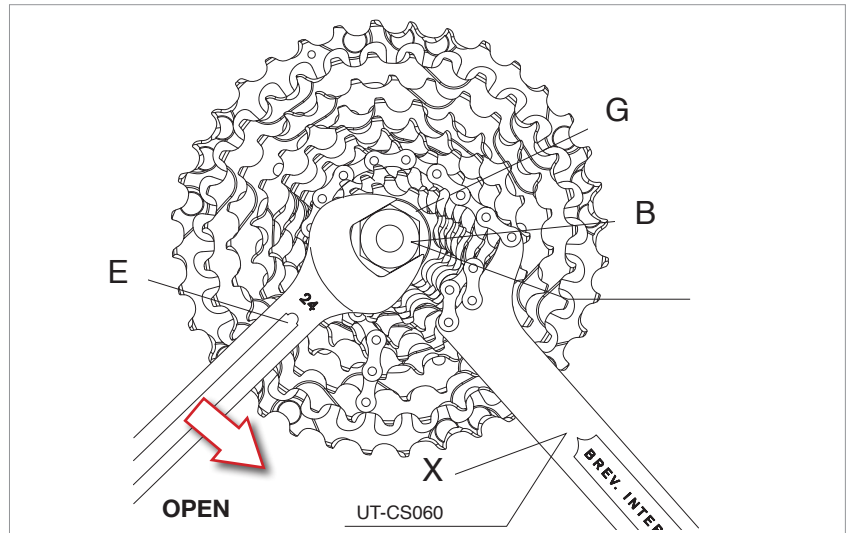

Fig.5
- Remove the locknut (G - Fig. 5) using Campagnolo® tool UT-BB080 (B - Fig. 5) with a 24 mm Allen wrench (E - Fig. 5) and wrench with chain Campagnolo® UT-CS060 (X - Fig. 5), or equivalent tool.